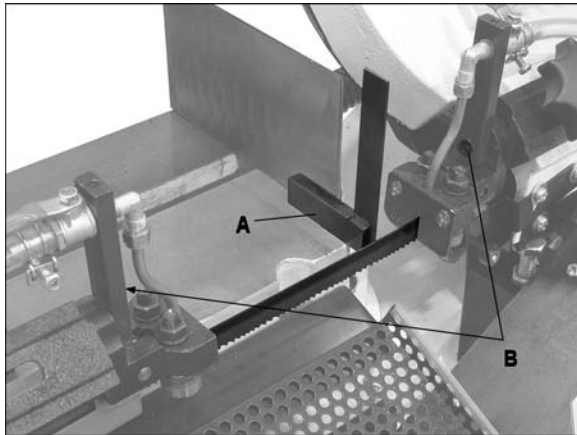

Figure 14
2. Place machinist's square (A, Figure 14) on table and against blade.
4. If adjustment is needed, loosen screws (B, Figure 14) and rotate blade guide assemblies until blade makes contact with square along its entire width.
5. Tighten screws (B).